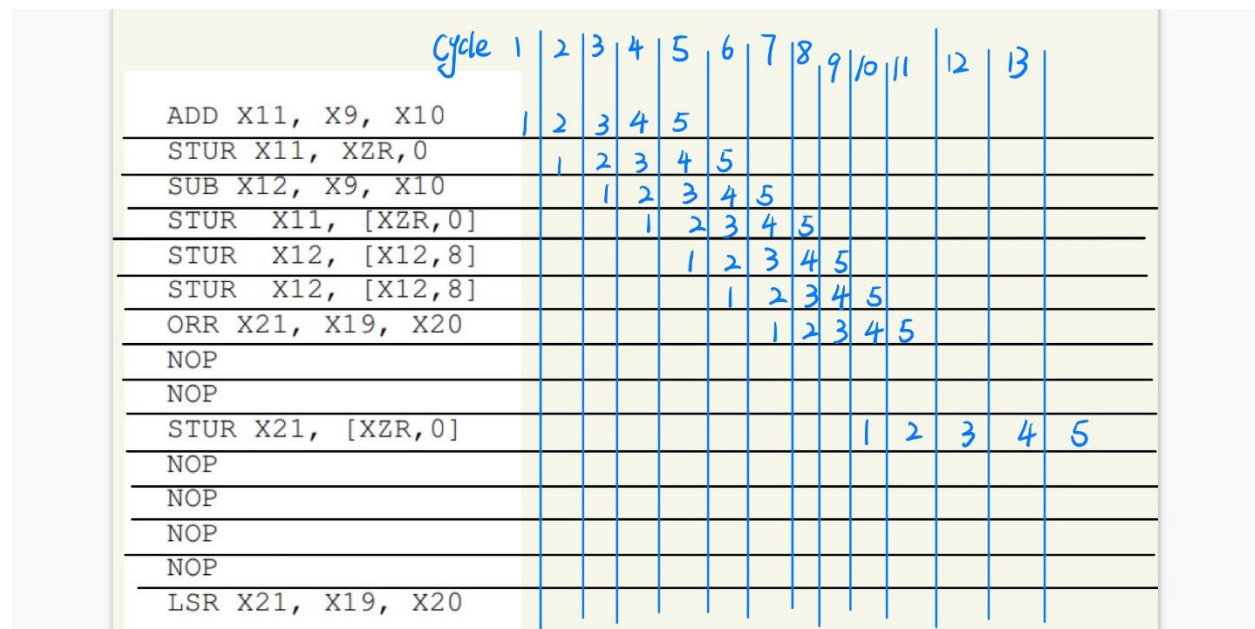

Figure 3(Timing diagram)
Figure3 is the timing diagram for this simulation, With this figure we can more easily interpret the test results.
Because we store value of X11 to address 0 of the DMEM. However we do not store the result of (ADD, X11, X9, X10), but the initialized value of X11, because according to figure 3, we get data of X11 in cycle2, but at that time the first instruction had not finished, the result of it was not written back to register. So, we get data hazard at this point.
Because we store value of X11 to address 0 of the DMEM. According to figure 3, we get data of X11 in cycle 5, and in the cycle 5 the X11 had been already written, So we store a different data (result of first instruction) in DMEM. At this point, we do not have data hazard.
Because we store value of X12 from dmemBytes(16) to dmemBytes(23) of the DMEM. However we do not store the result of (SUB, X12, X9, X10), but the initialized value of X12, because according to figure 3, we get data of X12 in cycle6, but at that time the third instruction had not finished, the result of it was not written back to register. So, we get data hazard at this point.
Because we store value of X12 from dmemBytes(16) to dmemBytes(23) of the DMEM. According to figure 3, we get data of X12 in cycle7, and in the cycle 7 the X12 had been already written, So we store a different data (result of first instruction) in DMEM. At this point, we do not have data hazard.